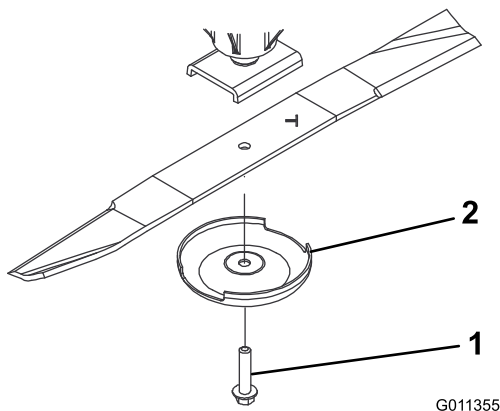

Figure 85
- Remove the blade bolt, anti-scalp cup, and blade from the spindle shaft (Figure 85).